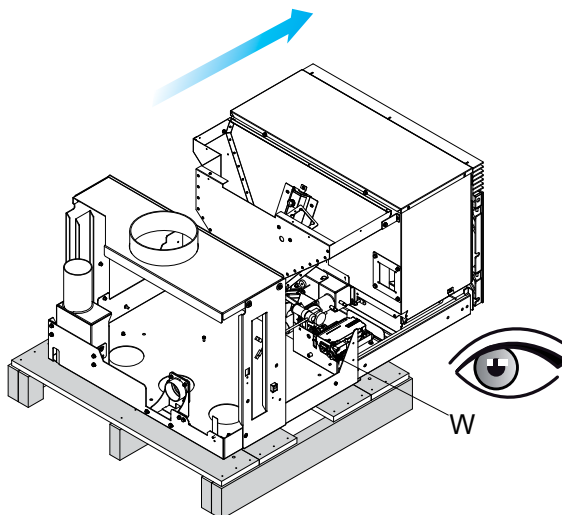

fig. 6.1.4
This activity causes a safety microswitch (W) to engage, shutting off the power feed (fig. 6.1.4), the power cable may not be connected to the electrical grid.